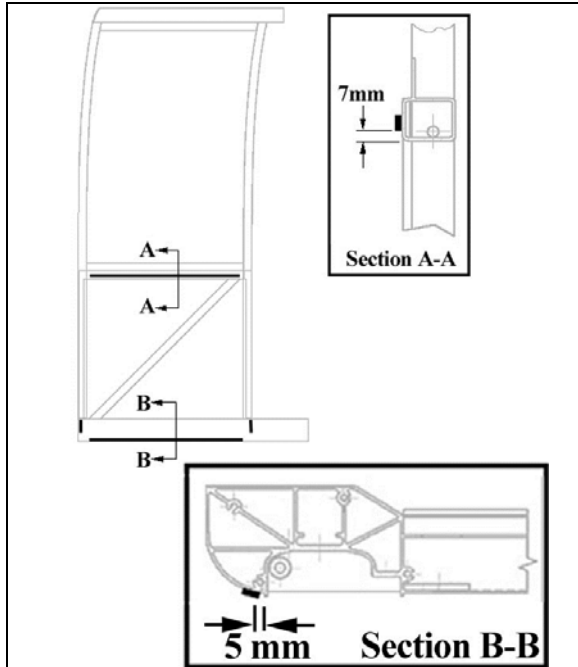

FIGURE 43 : SIDE PANEL INSTALLATION – DOUBLE FACE ADHESIVE TAPE APPLICATION ON THE SLIDE-OUT STRUCTURE
3. Refer to figure 43 for 1/16x1/4 double face adhesive tape location on structure Do not remove the tape blue protective layer [7mm≈9/32"] [5mm≈6/32"];]